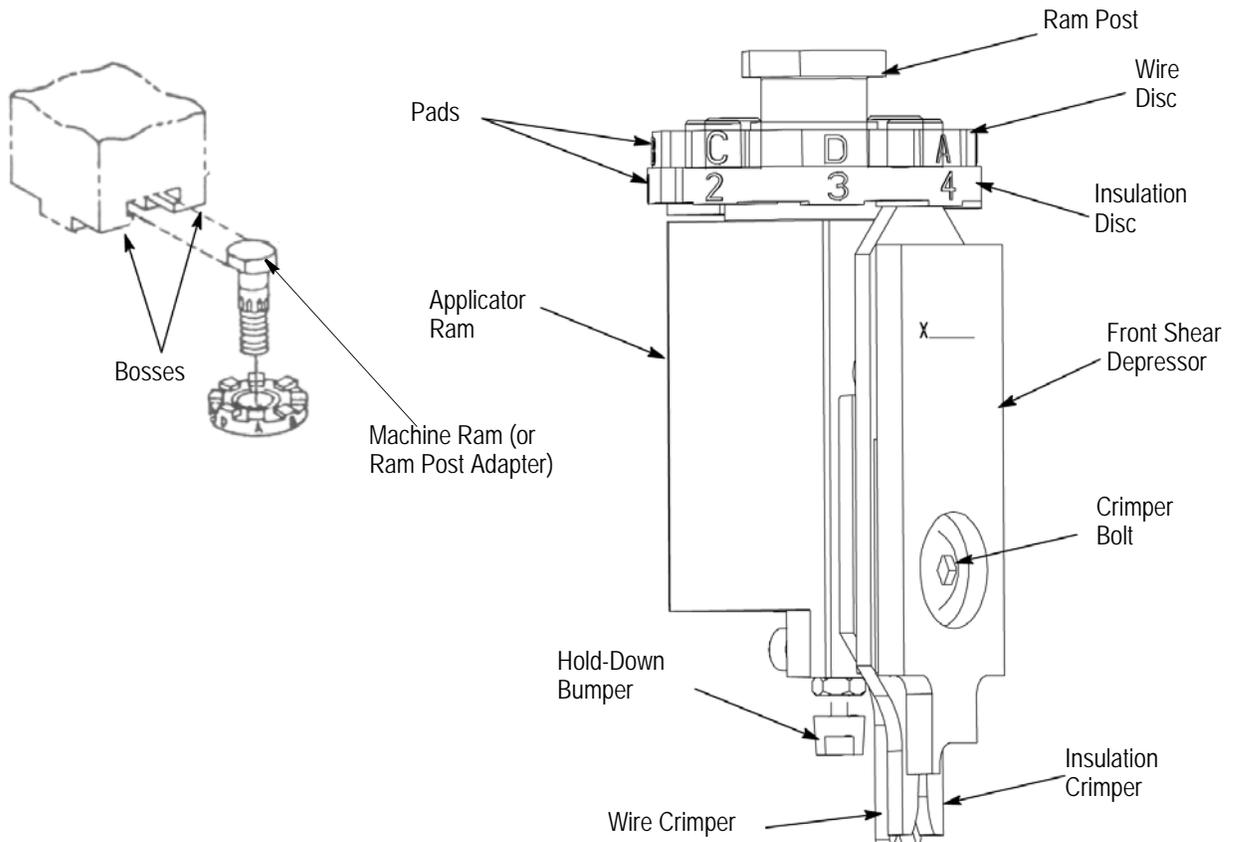

Figure 3
The main components of the applicators with mechanical feed are identified in Figures 1 and 2. The ram assembly is shown in detail in Figure 3.
Just below the ram post are the wire disc and the insulation disc. The wire disc has as many as four pairs of pads, depending on the number of different wire sizes the terminals will accept. Each pair of pads has a different height. By rotating the disc, each pair of pads can be lined up with the two bosses on the ram post adapter (see Figure 3) to change the length of stroke of the wire crimper over the anvil. The insulation disc contains eight pads of different heights. When this disc is turned, the pads line up with the top of the insulation crimper to change the insulation crimp height.
2. Turn wire disc (upper disc) to line up selected pad letter with **BOSSSES ON MACHINE RAM** (or **RAM POST ADAPTER**). See Figure 3. This provides the right crimp height for that wire size.